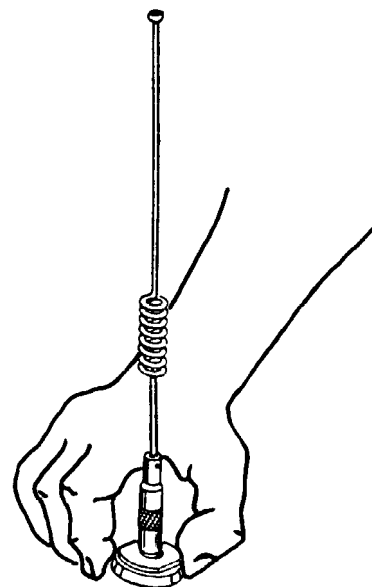

Figure 9.
8. Refer to Figure 9. Slide the metal cap (coupling nut) over the antenna rod assembly until it is in place over the plastic insulator of the whip assembly. Put the whip assembly in place over the locking nut and secure the metal cap to the external threads of the locking nut. With the antenna rod in a perfectly vertical position, tighten the metal cap by hand as tight as possible. Then, with 10" adjustable wrench or a 1" open end wrench, tighten no more than an additional 1/2-turn.